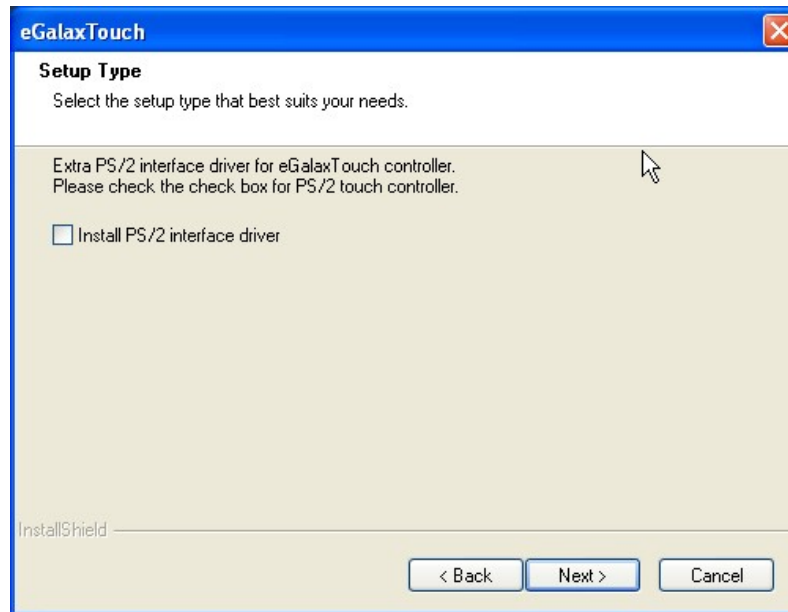

Figure 6-36: Setup Type – PS/2 Interface
Step 4: The screen in **Figure 6-36** appears. Click **Next** to continue.